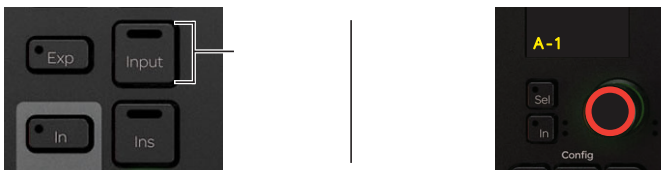

Figure 3. Input switch on Process Module (at left) and top level input knob set (at right)
- 1 In the strip for the desired track (S6) or current Focus strip (S4 CSM), press **Input** on the Process module (see Figure 3, left image) or CSM. The first knob in the Knob Module (or CSM) shows the current input assignment for the track (see Figure 3, right image). On S6, if no Knob Module is present for that strip, the current assignment appears in the Process Module encoder display.